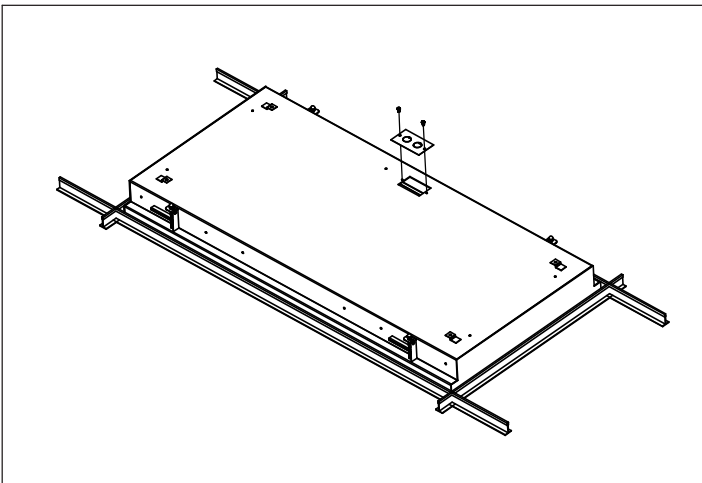

Figure 3
3. Remove Access Cover Panel, make all necessary electrical connections and re-attach Access Cover Panel (Fig. 3)